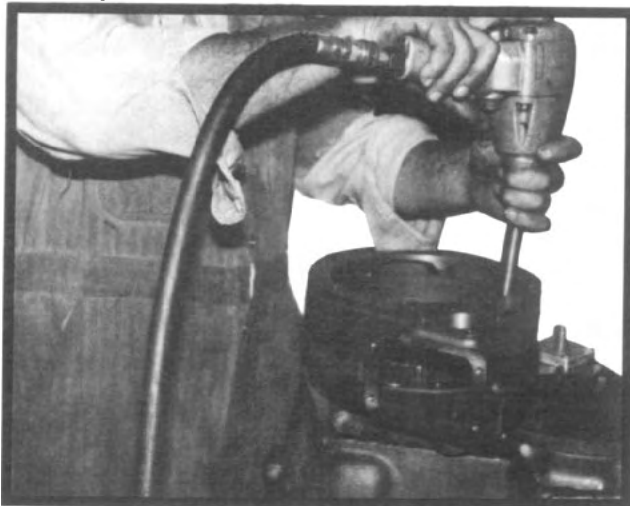

Fig 24—Declutch Housing to Transfer Case Location
NOTE:The PTO and declutch assemblies are similar except for the manner in which the housings are bolted to the transfer case. See fig. 24 and 25 for mounting of appropriate housing.
1. Bolt PTO/declutch housing and gasket to main case with six capscrews. Be sure to align oil passages (see fig. 24). Tighten capscrews to correct torque.